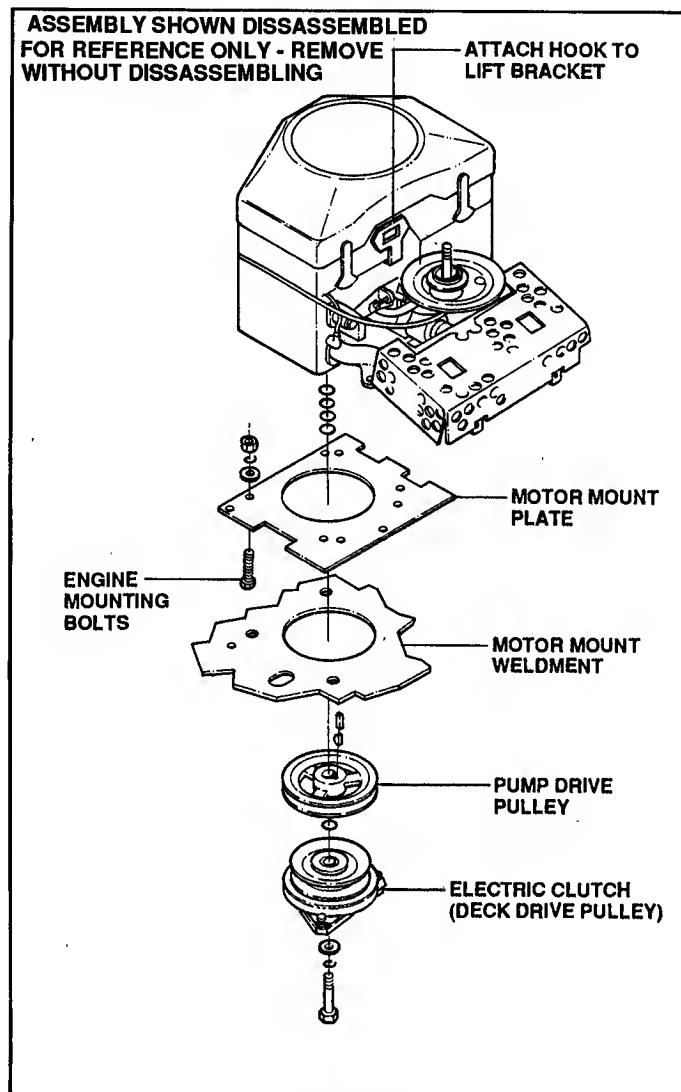

FIGURE 7.7
10. Remove the engine mounting bolts from the motor mount plate. See Figure 7.7.